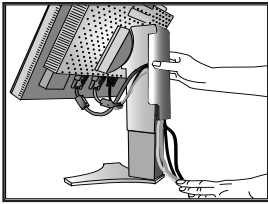

Figure 9
7. Slide the Cable Cover back into its correct position (Figure 9).